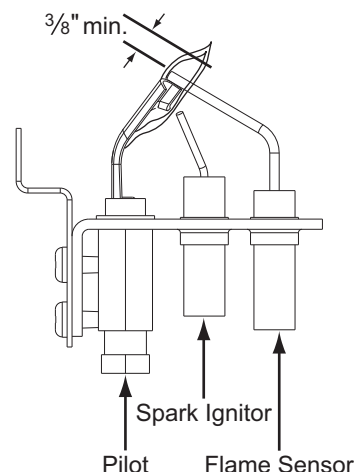

Figure 19: Proper Flame Adjustment
1. **Limit Switch (LS)** - This control is located inside the heat exchanger compartment and is set to open at the temperature indicated in the Temperature Controls Table of the unit wiring diagram. It resets automatically. The limit switch operates when a high temperature condition caused by inadequate supply air flow occurs, thus shutting down the ignition control and closing the main gas valve and energizing the blower.
2. **Pressure Switch (PS)** - If the draft motor should fail, the pressure switch prevents the ignition controls and gas valves from being energized.
3. **Flame Sensor** - The flame sensor and controls are located per Proper Flame Adjustment Figure 19. If an ignition control fails to detect a signal from the flame sensor indicating the pilot flame is properly ignited, then the main gas valve will not open.
4. **Rollout Switch (RS)** - This switch is located in the burner vestibule. In the event of a sustained main burner flame rollout, it shuts off the ignition control and closes the main gas valve.
3. The pilot flame should envelope 3/8" of the end of the flame sensor and not contain any yellow color, see Figure 19.